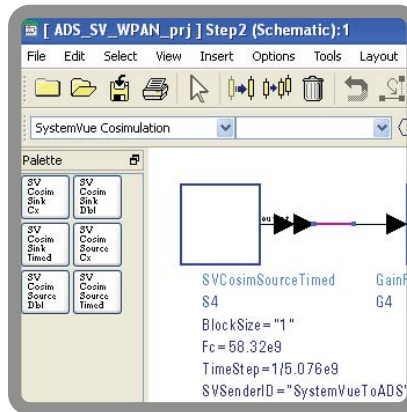

Figure 5. The ADS co-simulation palette shown here is created after installation.
- Exit ADS, if it is currently running. Establish environment variables for **HPPEESOF\_DIR** and **ADSPTOLEMY\_MODEL\_PATH**, per the instructions in the “SETUP” document. When you run ADS, you should have a new DSP schematic palette called “SystemVue Cosimulation” as shown in Figure 5.